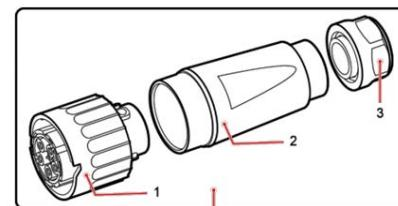

Fig.3-34
1) AC output connector contains three parts: plug, adapter and cable gland. See Fig.3-34